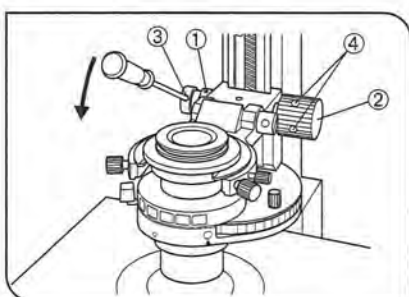

Fig. 34
(Fig. 34)
1. Loosen the two knob clamping screws ① on the left adjustment knob using the Allen screwdriver.
When the handle ② has been moved to the left, restore it in the position as shown in Fig. 34.
2. Insert the Allen screwdriver into the hole ③ on the condenser height adjustment knob ② and, while holding the knob, turn the screwdriver in the direction of the arrow to increase the rotation tension of the knob or in the opposite direction to decrease the tension.
3. After adjustment, tighten the two clamping screws ① securely.